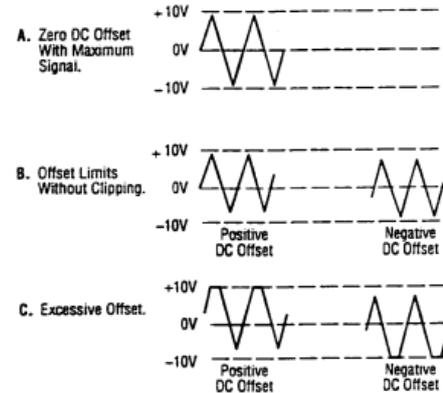

Figure 3. Use of DC OFFSET Control
- A superimposed DC component can be added to the output signal by engaging the **DC OFFSET** switch (14) to enable operation of the **DC OFFSET** control (5). Rotation of this control adds a positive or negative DC component to the output signal. The DC component introduced is independent of the **OUTPUT LEVEL** control and can be varied by ± 10 volts open circuited or ± 5 volts into 50Ω . The DC Offset does not affect the **TTL/CMOS** output jack. The effect of DC OFFSET is shown in Fig. 3.
- Remember that the output signal swing of the generator is limited to ± 10 volts open circuited or ± 5 volts into 50Ω , and applies to the combined peak-to-peak signal and DC offset. Clipping occurs slightly above these levels. Fig. 3 illustrates the various operating conditions encountered when using the DC offset. If the desired output signal is large or if a large DC offset is required, an oscilloscope should be used to make sure that the desired signal is obtained without undesirable clipping.